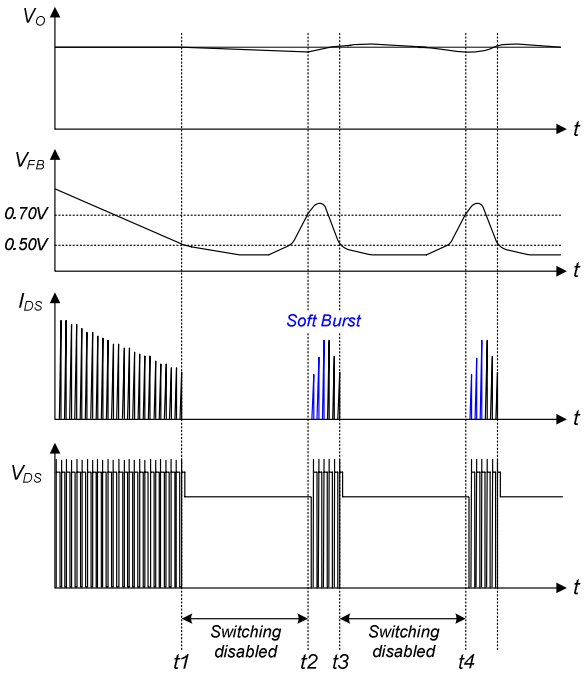

**Figure 22. Output-Short Protection**
**4.3. Output-Short Protection (OSP):** If the output is shorted, steep current with extremely high di/dt can flow through the SenseFET during the minimum turn-on time. Such a steep current brings high-voltage stress on the drain of the SenseFET when turned off. To protect the device from this abnormal condition, OSP is included. It is comprised of detecting  $V_{FB}$  and SenseFET turn-on time. When the  $V_{FB}$  is higher than 2V and the SenseFET turn-on time is lower than  $1.2\mu s$ , the FSGM0465RB recognizes this condition as an abnormal error and shuts down PWM switching until  $V_{CC}$  reaches  $V_{START}$  again. An abnormal condition output short is shown in Figure 22.